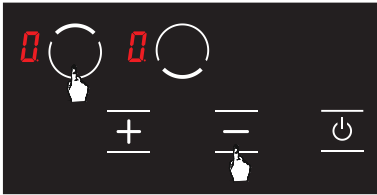

Figure 21
2. Press upper hob selection key ( **⦿** ) and minus key ( **⏪** ) simultaneously. (see Fig. 21) You shall hear a short warning signal at this time. Then, remove your fingers from the stove control panel.